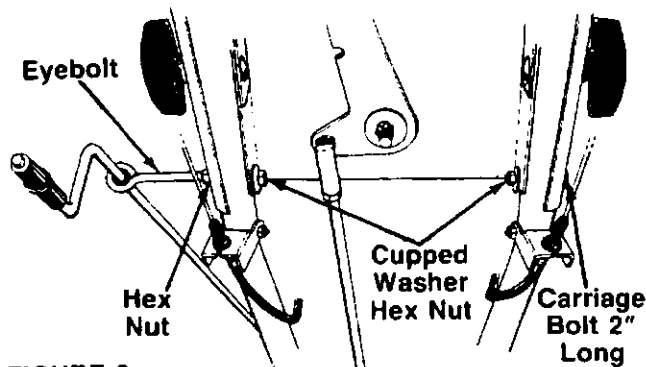

FIGURE 3.
- 1. Secure the right hand side of upper and lower handles and handle panel with 2" long carriage bolt, 5/16" cupped washer and hex nut. See figure 3. Install the carriage bolt into the lower hole with the head of the carriage bolt to the outside. Cupped side of washer goes against the handle panel. Tighten securely.